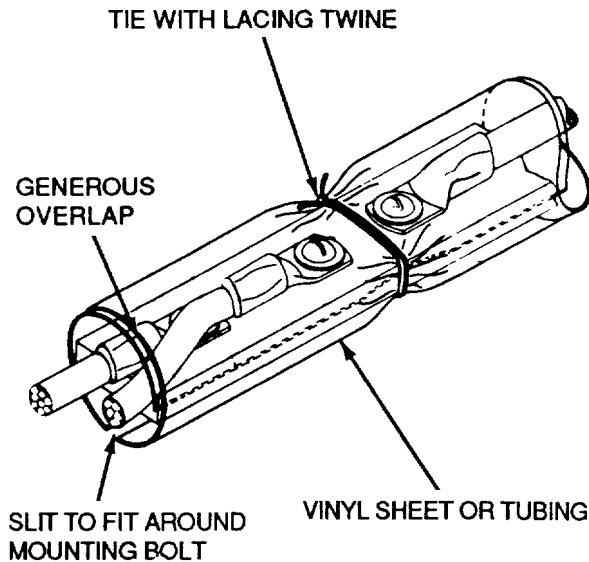

Figure 3. Vinyl Tubing Around Bus Bar
d. In conjunction with the previous steps, bus bars can also be protected by slitting a piece of vinyl tubing or suitable substitute with comparable dielectric characteristics, and wrapping it around the bus bar after all connections are made and coatings applied. Select tubing which has large enough diameter to permit a generous overlap when tying it in place (Figure 3).